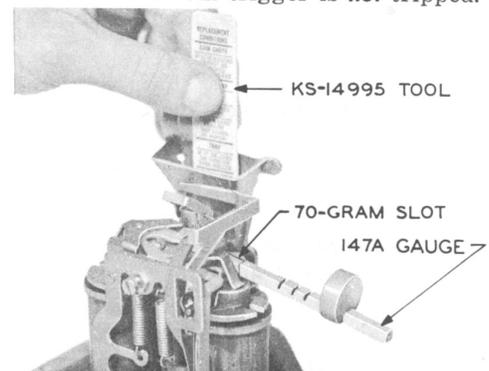

Fig. 7 – Trap and Vane Release Test
- (1) Remove shield from relay.
- (2) Apply slot 70 of 147A gauge to right rear horizontal portion of relay operating arm. Make sure that enclosed end of slot is against edge of operating arm and that weight on gauge is positioned up, as shown in Fig. 7.
- (3) Press down on 147A gauge to operate relay and vane to limits of their travel.
- (4) Insert KS-14995 coin collector tool into throat of hopper to operate trap to the limit of its travel. Hold in place as shown in Fig. 7.
- (5) Release pressure on 147A gauge.
- (6) Slowly withdraw KS-14995 tool. Take at least 5 seconds.
- (7) Be sure that vane and relay return to their unoperated positions.
- (8) Make test three times with gauge on right (collect) side and three times on left (refund) side.